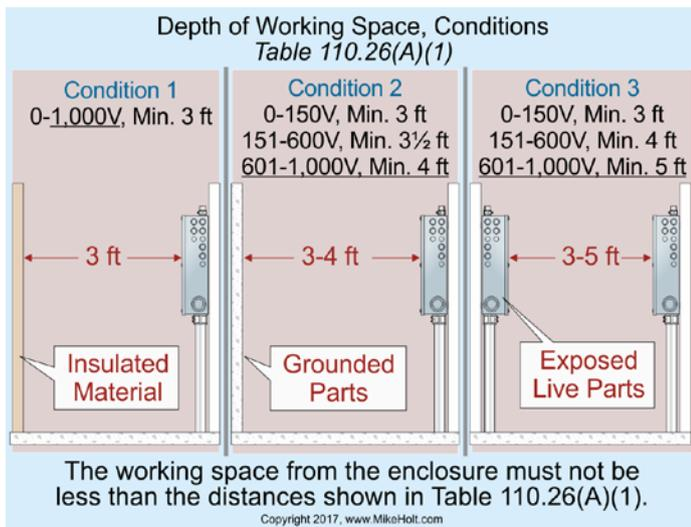

Figure 110-29
**(1) Depth of Working Space.** The working space, which is measured from the enclosure front, isn't permitted to be less than the distances contained in Table 110.26(A)(1). *Figure 110-29*